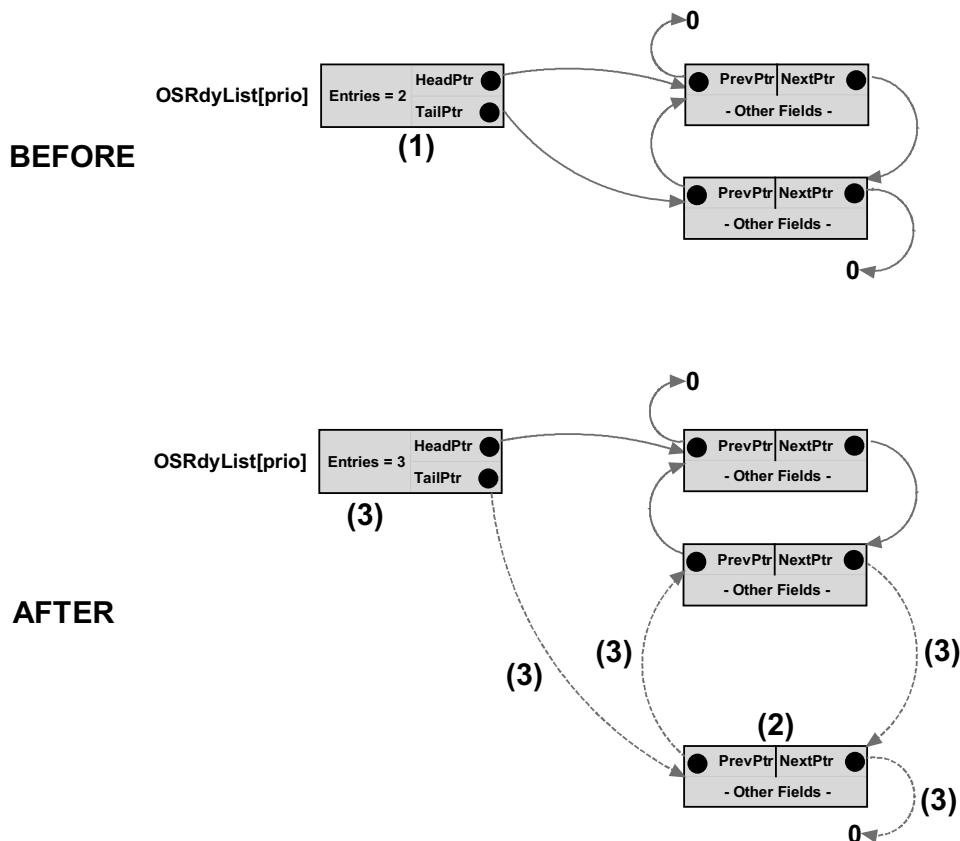

Figure 6-6 Inserting a newly created task in the ready list
Tasks are added to the ready list by a number of µC/OS-III services. The most obvious service is `OSTaskCreate()`, which always creates a task in the ready-to-run state and adds the task to the ready list. As shown in Figure 6-6, we created a task, and specified a priority level where tasks already existed (two in this example) in the ready list at the desired priority level. `OSTaskCreate()` will then insert the new task at the end of the list of tasks at that priority level.
- F6-6(1) Before calling `OSTaskCreate()` (in this example), two tasks were in the ready list at priority “`prio`”.
- F6-6(2) A new TCB is passed to `OSTaskCreate()` and, µC/OS-III initialized the contents of that TCB.
- F6-6(3) `OSTaskCreate()` calls `OS_RdyListInsertTail()`, which links the new TCB to the ready list by setting up four pointers and also incrementing the `.Entries` field of `OSRdyList[prio]`. Not shown in Figure 6-6 is that `OSTaskCreate()` also calls `OS_PrioInsert()` to set the bit in the bitmap table. Of course, this operation is not necessary as there are already entries in the list at this priority. However, `OS_PrioInsert()` is a very fast call and thus it should not affect performance.